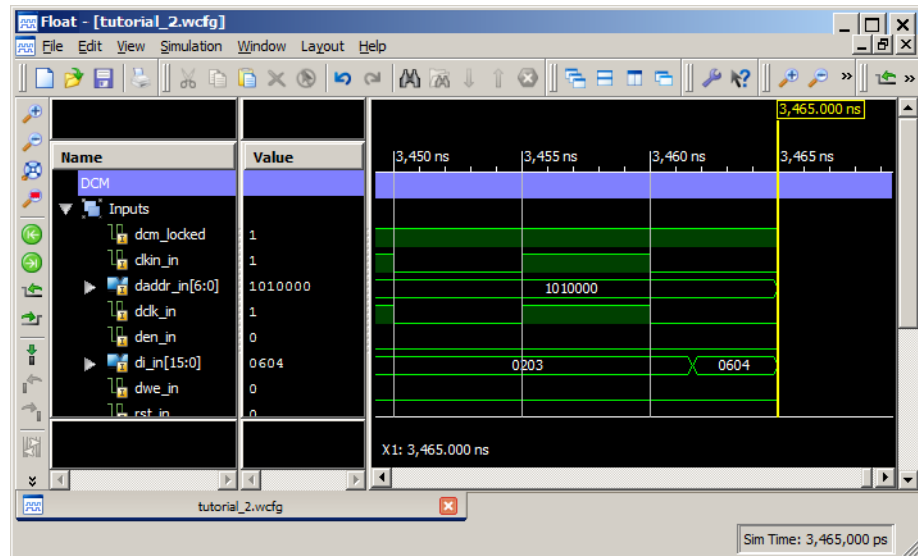

Figure 3-38: Wave Window: Analyzing Output of DCM DI_IN Input Bus
- Right-click anywhere on the executable line and select **Toggle Breakpoint** to add the breakpoint (see Figure 3-38).
4. Continue stepping through the simulation until the `di_in` bus signal is updated with a new value (you might need to zoom in to observe the change). At around 3,465 ns, the bus should be updated from 0203h to 0604h (see Figure 3-38).